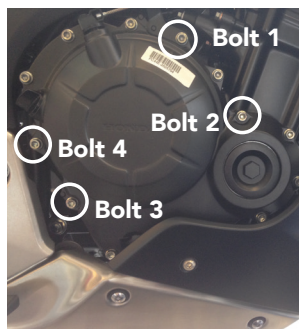

FIG. 2
- 2 Remove 3 existing bolts from the stock Pulse cover, shown as position Bolt 1, 2, & 3 (FIG. 2).